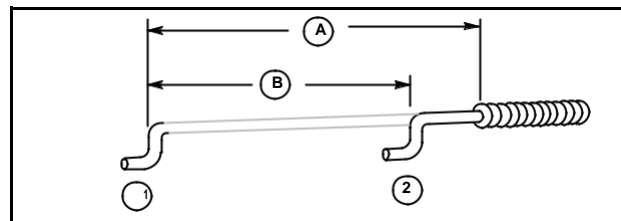

Fig. 54
Choke-A-Matic is standard on Model Series 92900 (type nos. lower than 0500), and Series 92500 (type nos. lower than 600) engines. Remote control must be of type in which control wire moves 2-1/8" (54 mm) (A) out of casing when control lever is moved from "STOP" position (2) to "CHOKE" or "START" position (1) A minimum travel of 1-3/8" (35 mm) (B) is required when remote control is mounted, Fig. 54.